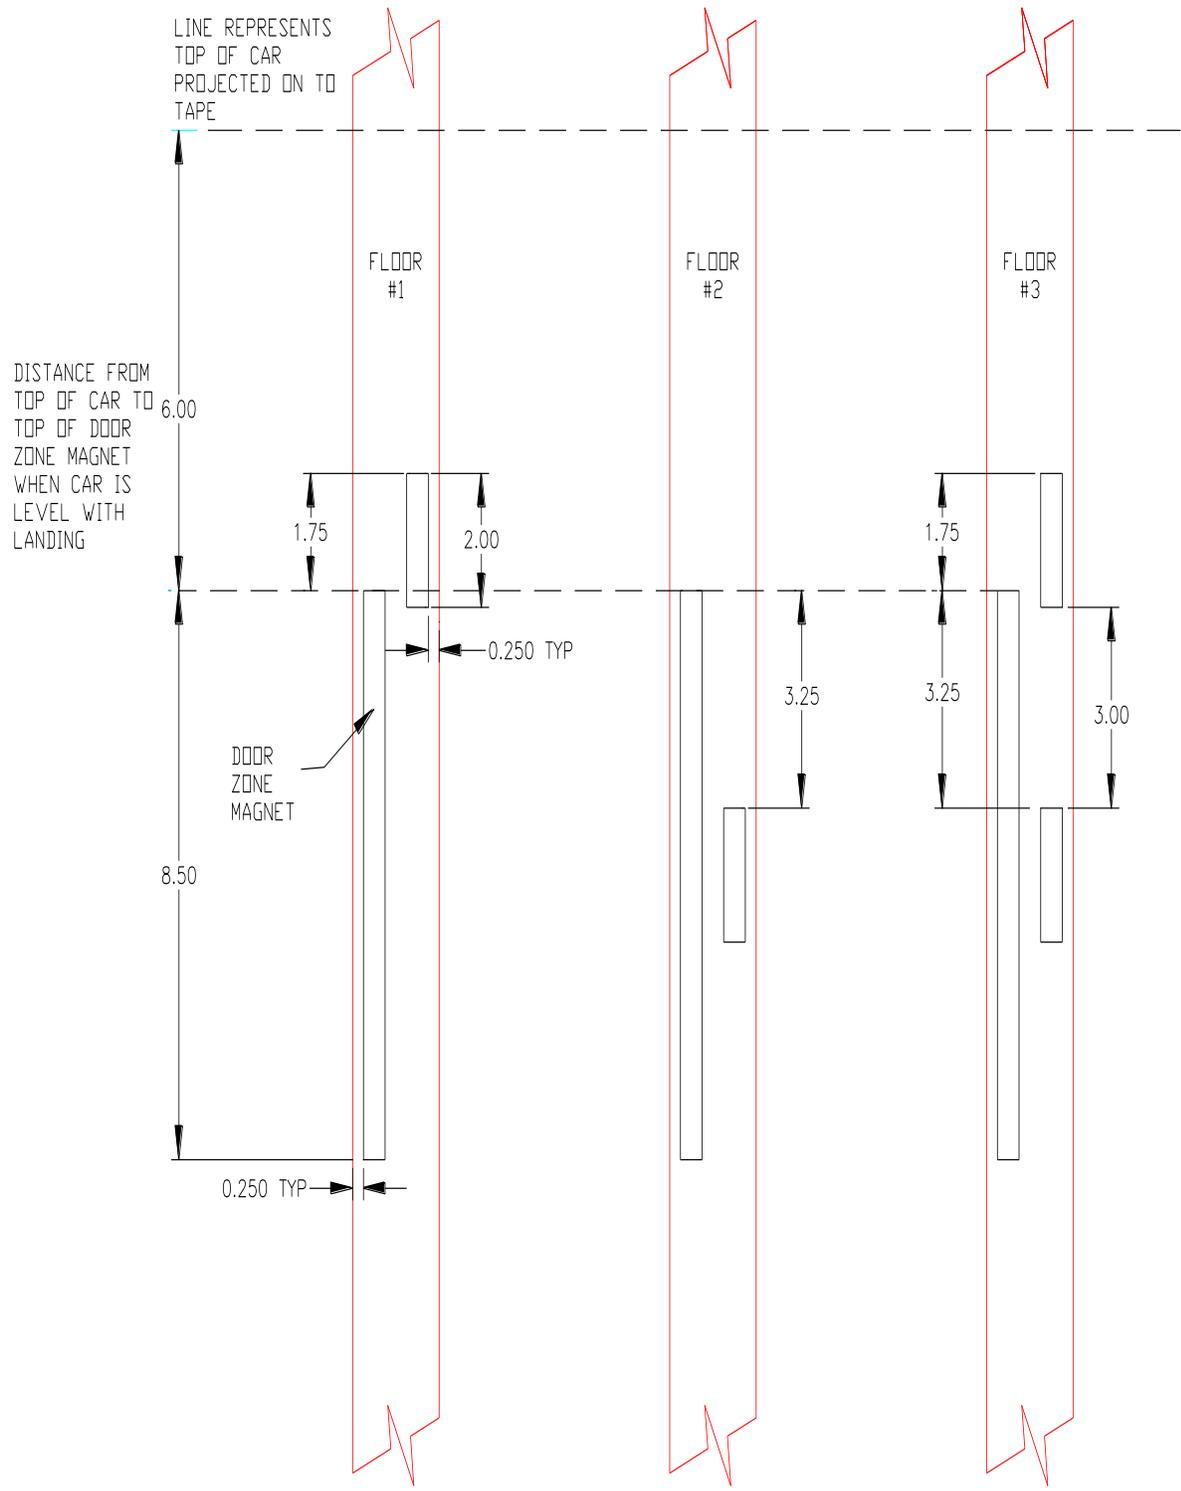
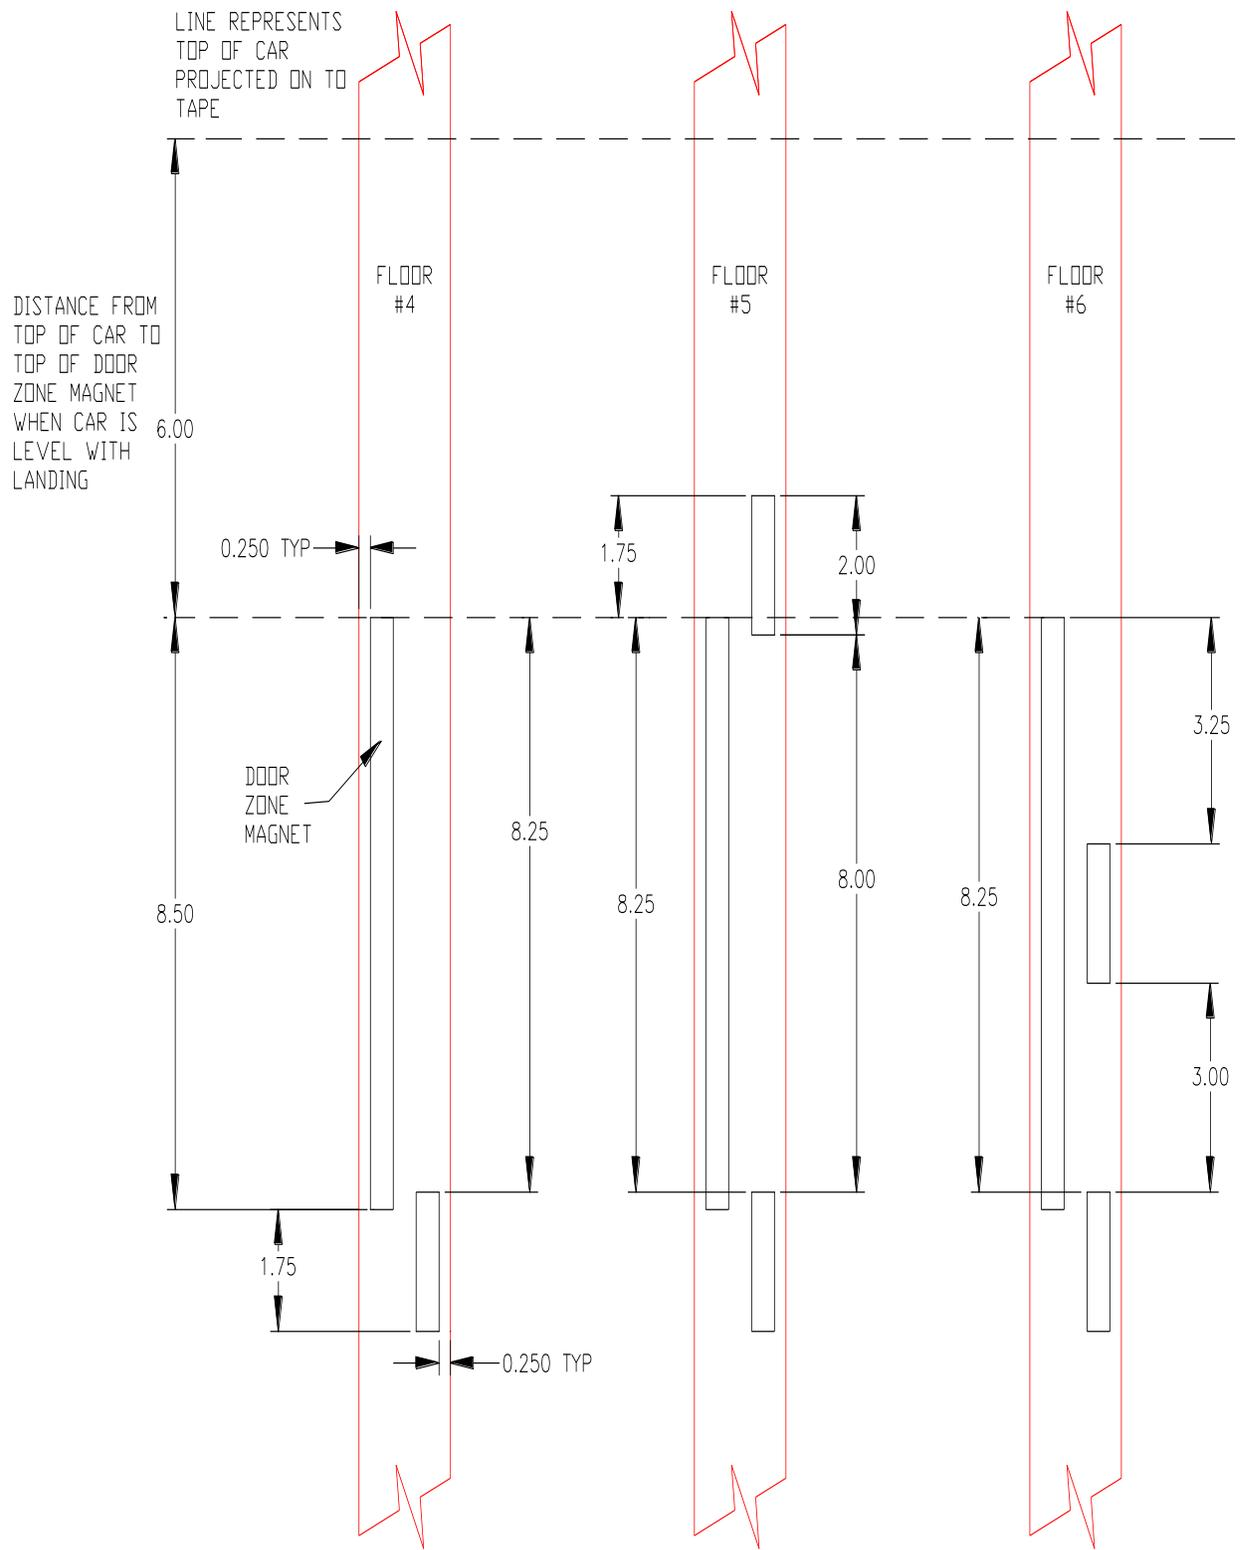

Figure 55 - Magnet Configurations Floors 1, 2, 3
Figure 56 - Magnet Configurations Floors 4, 5, 6
3. See Figure 55 & Figure 56 for magnet groupings per floor along with pertinent locating dimensions.
- c. Locate and install the magnets on the tape using Figure 55 & Figure 56.